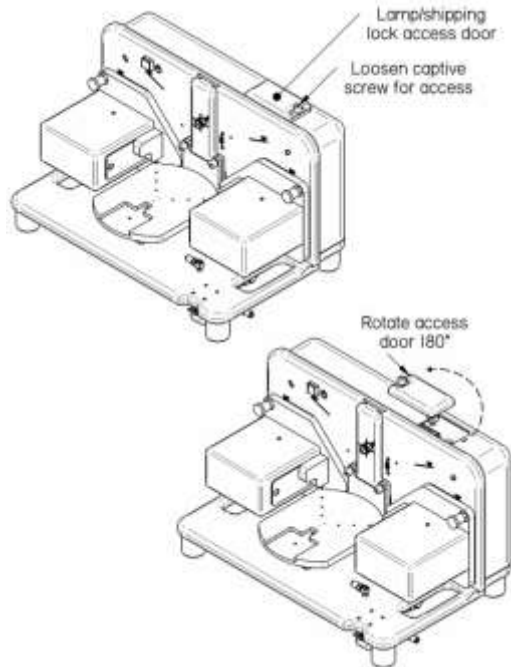

Figure 8-1. Opening the lamp access door to change the lamp.
2. Open the lamp access door, as shown in Figure 8-1.